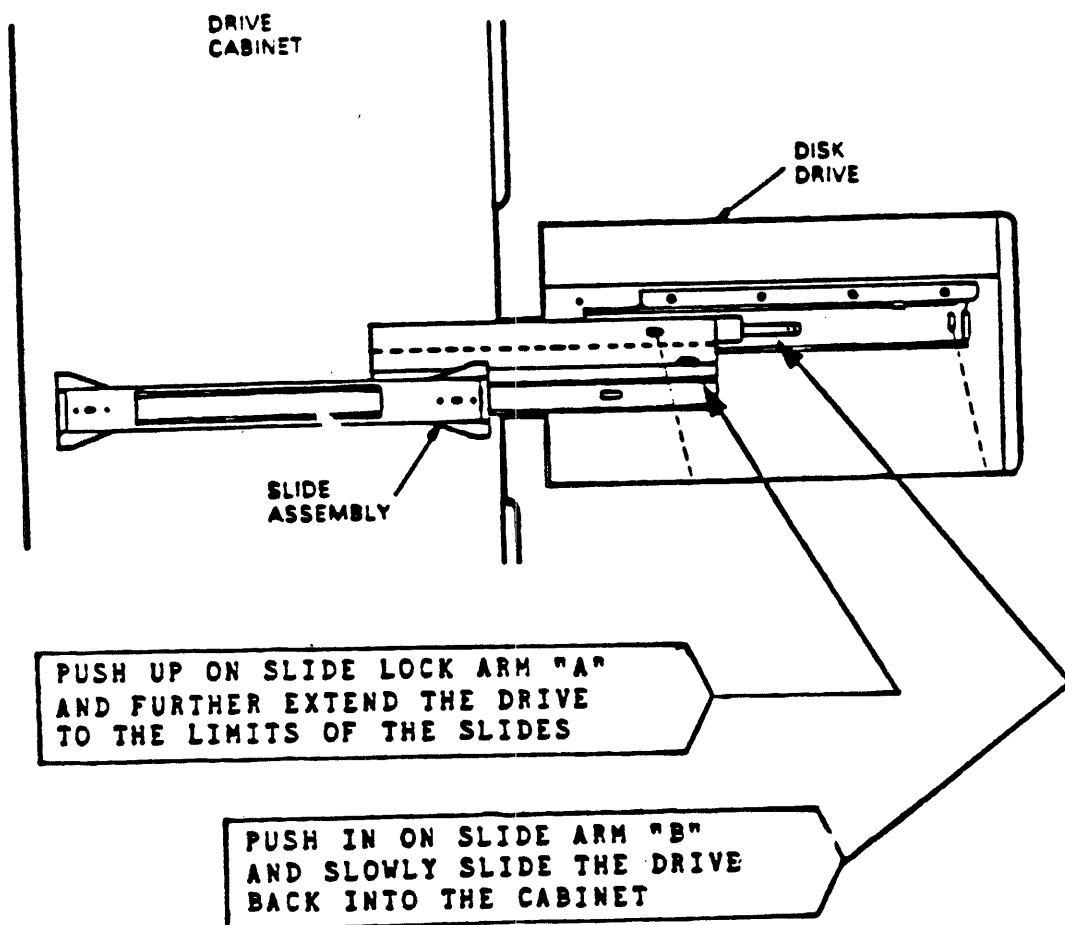

FIGURE 5
13. Push in on slide arm "B" and slowly slide the Drive back into the cabinet. (Figure 5)